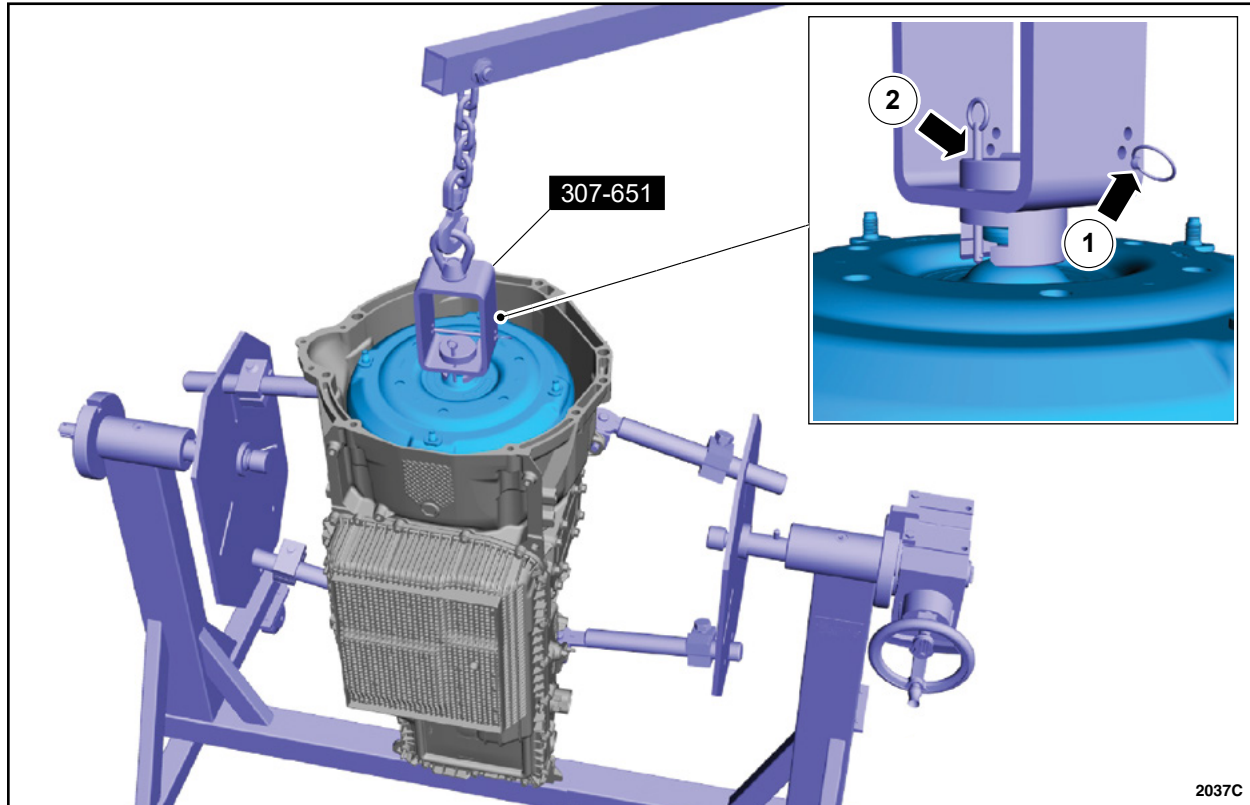

**FIGURE 34**
36. Tighten the bolts in the sequence shown. See Figure 34.